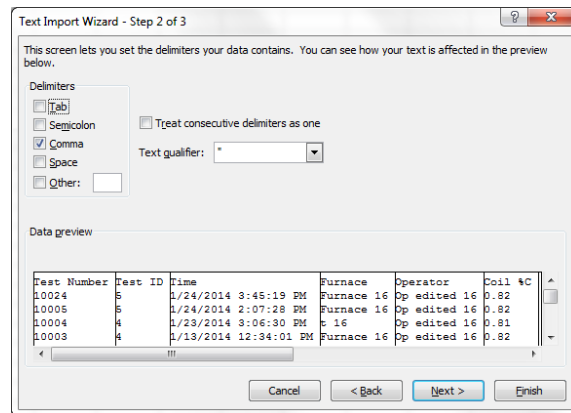

Figure 59 - Importing CSV file in Microsoft Excel (Step 2 of 3)
4. Set the Delimiter type to “Comma” (Figure 59). Then click **Next**.